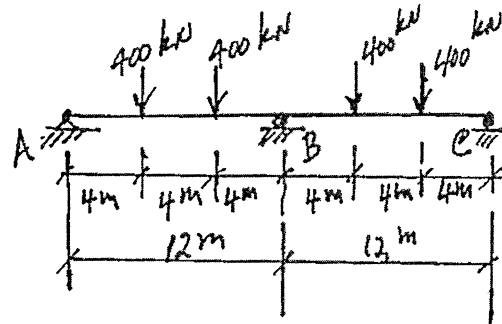

FIGURE 2
2. The two-span continuous welded plate girder, shown in Figure 2, is to be designed using the non-stiffened-web approach. Design a cross-section suitable for flexure, shear, and their interaction.
7. The continuous beam in Figure 2 is to be designed in reinforced concrete. Using the Limit States Design method:
[Ignore the Note shown in Figure 2, when solving this question.]